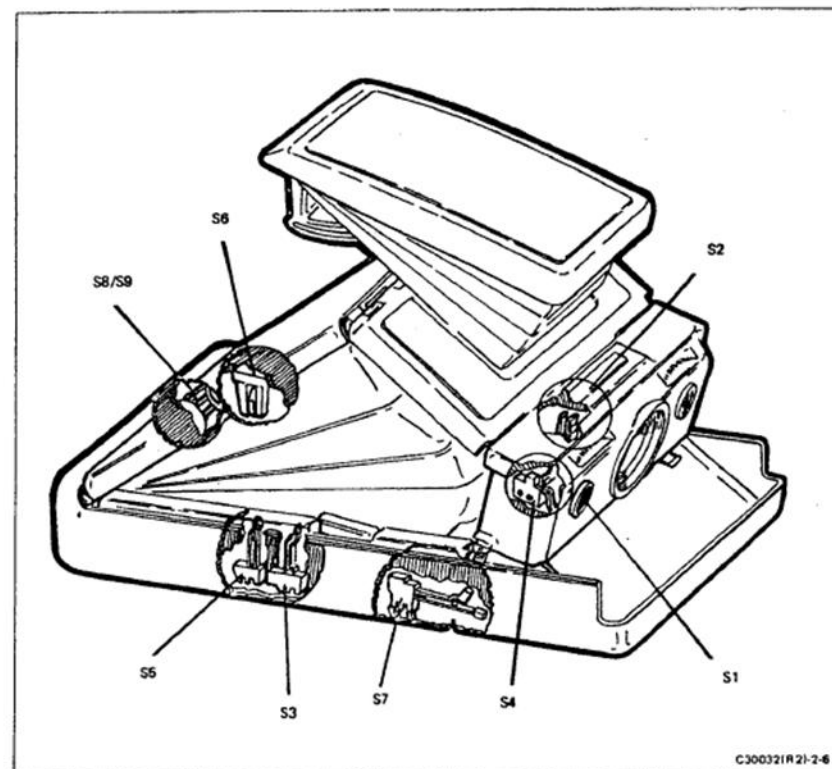

FIGURE 2-6 SX-70 SWITCH LOCATIONS
2. Switch Functions (Figure 2-6)